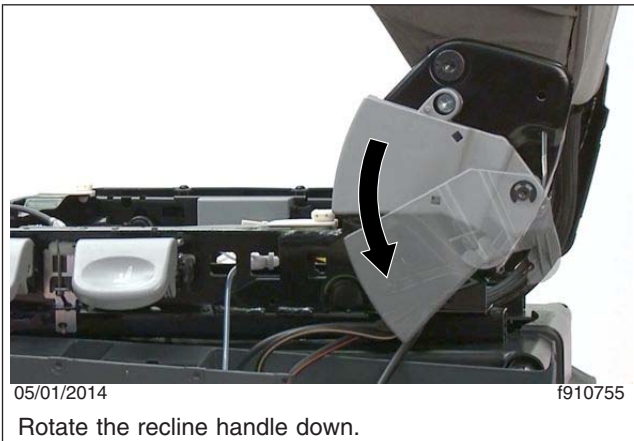

Fig. 4, Recline Handle Rotation
5. Pull the recline handle out slightly to disengage it from the stop, then rotate the handle down; see Fig. 4.